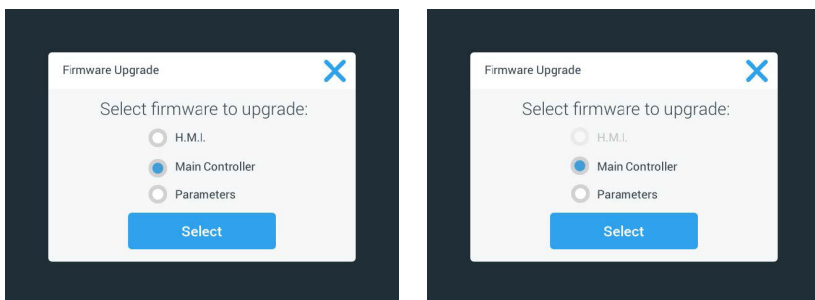

Figure 124: Select Firmware Item to Install
11. If there is firmware to upgrade, the itemized list shown in Figure 124 appears in the **Firmware Upgrade** screen. Tap on the firmware item you wish to upgrade.
NOTICE If you select the **H.M.I.** option from the list shown in Figure 124 to upgrade the GUI firmware only, the GUI display will not respond to any further tapping on the touchscreen's active area for up to one minute after you have started the firmware upgrade. Do not power off the shaker during this period, otherwise the upgrade will not be completed successfully. The shaker will restart after a short time and then be ready for use again.
NOTICE In the event that you select two or three options from the list shown in Figure 124 to upgrade multiple firmware components in one go, the shaker must not be powered off at any time during the entire upgrade process.